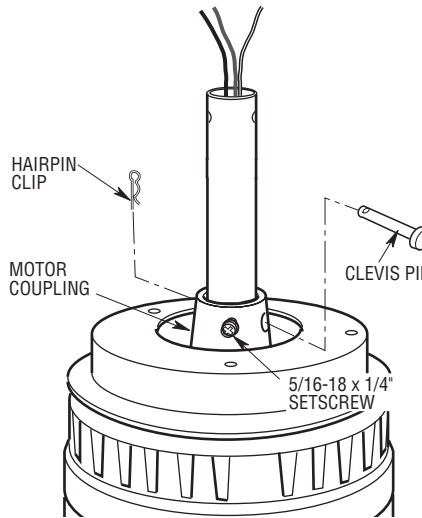

Figure 7
- 12. Separate, untwist and unkink the three 80" motor leads. Route the motor lead wires through the downrod. Align the clevis pin holes in the downrod with the holes in the motor coupling. Install the clevis pin and secure with the hairpin clip (Figure 7). The clevis pin must go through the holes in the motor coupling and the holes in the downrod. Be sure to push the straight leg of the hairpin clip through the hole near the end of the clevis pin until the curved portion of the hairpin clip snaps around the clevis pin. The hairpin clip must be
- 14. While pulling up on the downrod, securely tighten the 5/16-18 x 1/4" setscrew (supplied) in the motor coupling using the 3/16" hex wrench (supplied) (Figure 7).